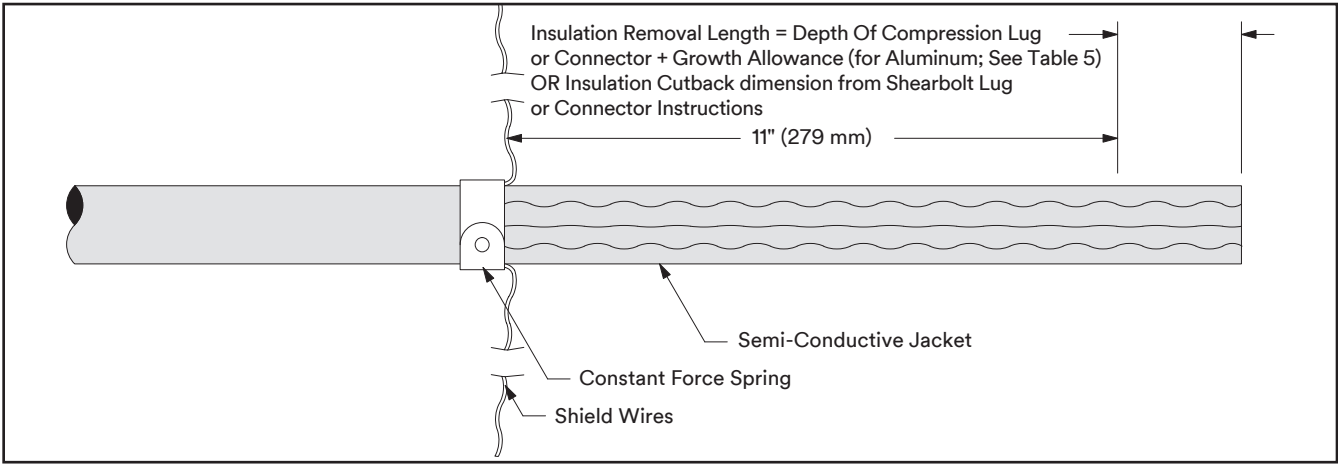

Figure 18
12.2 Prepare cable using dimensions shown in Figures 18, 19 and 20. **BE SURE TO ALLOW FOR DEPTH OF TERMINAL LUG.**
- 12.5 Install constant force spring as shown in Figure 18. Pull shield wires through semi-conductive jacket to leading edge of constant force spring (Figure 18).